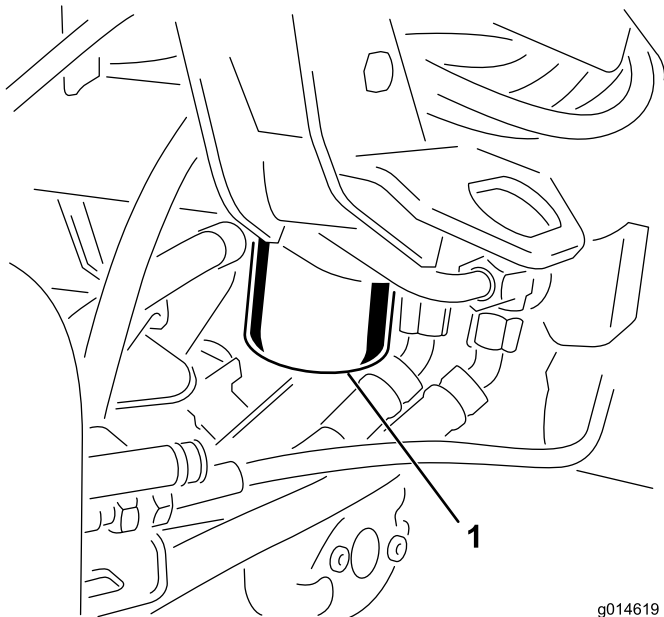

Figure 38
1. Clean the area around the filter mounting area (Figure 38). Place a drain pan under the filter and remove the filter.